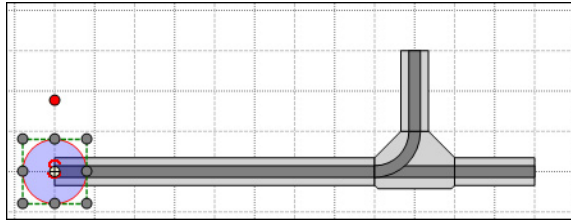

Figure 3-14: Node Selected to Start Automatic Node Placement
3. Select the **Merge**, **Diverge**, **Relay**, **Simple**, or upstream **Terminus** node (see the simplified representation in Figure 3-14).